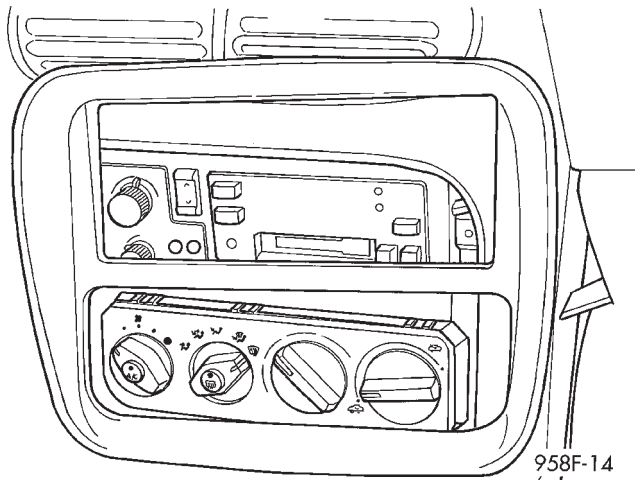

Fig. 3 Center Bezel
Pull center bezel straight rearward along the sides of the radio and A/C control openings to disengage four clips (Fig. 3).
- (1) Remove instrument panel left end cap.
- (2) Tilt steering column down to its lowest position.
- (3) Remove instrument panel center bezel by disengaging the four clips (Fig. 3).